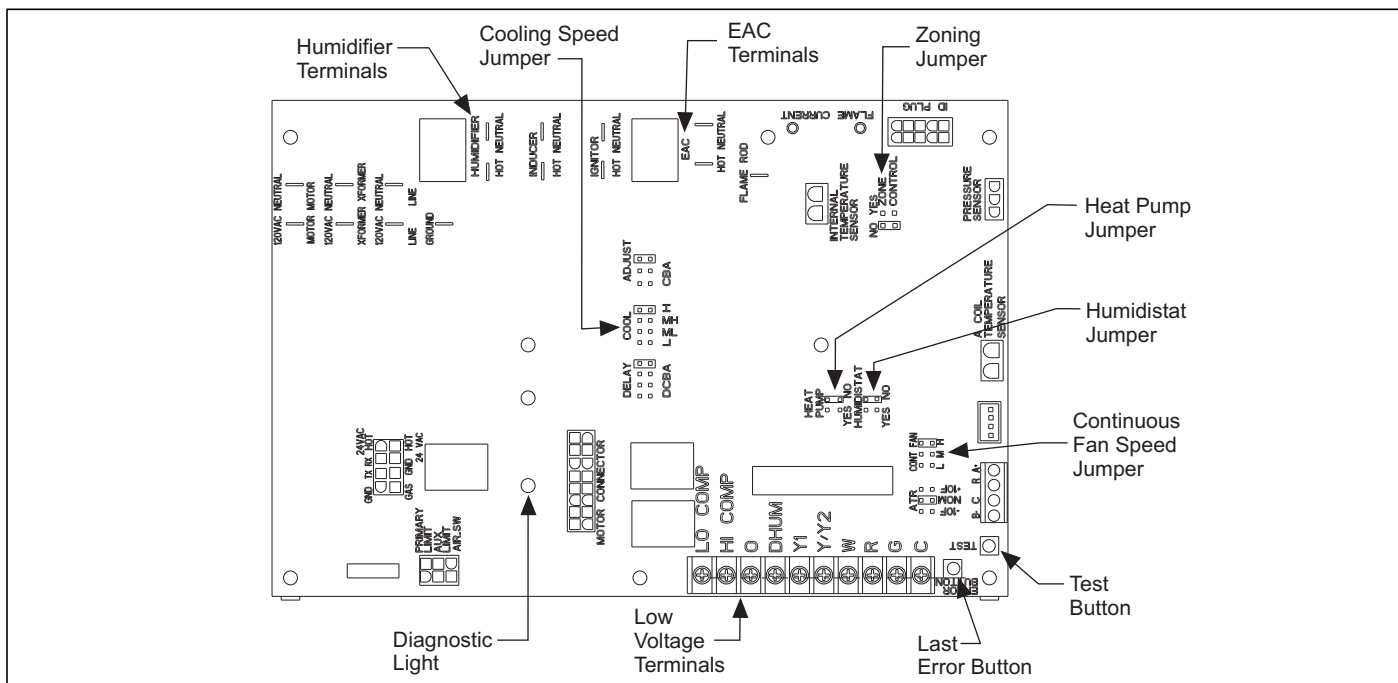

FIGURE 46: Furnace Control Board
Inlet and manifold gas pressure may be measured by connecting the "U" tube manometer to the gas valve with a piece of tubing. Follow the appropriate section in the instructions below. Refer to Figure 46 for the locations of the pressure ports on the gas valve.
4. Refer to Figure 46 for location of pressure regulator adjustment screw on main gas valve.